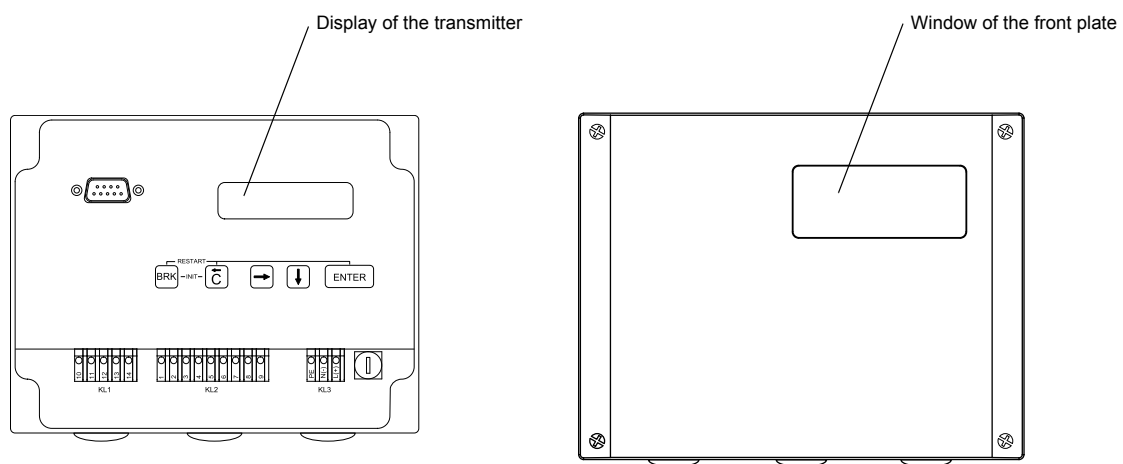

Fig. 6.1: FLUXUS WD100, WD200
- Remove the protection films from the window of the front plate (inside and outside) and from the display of the transmitter (see Fig. 6.1).